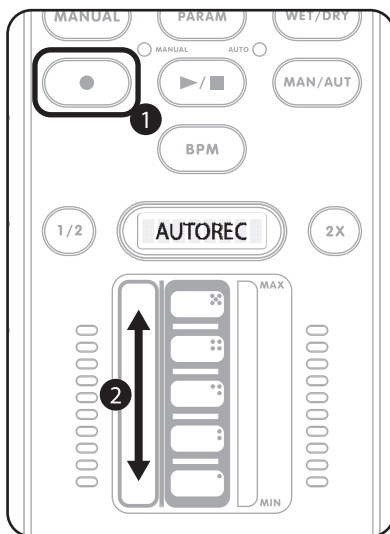

Figure 4.21
With one finger, you will need to press and hold the RECORD button Figure 4.21 (1). Take your other finger and start moving it across the FXGlide™ slider (2). When your finger first touches the strip, you will see the LCD display say AUTOREC to indicate that automation is being recorded.